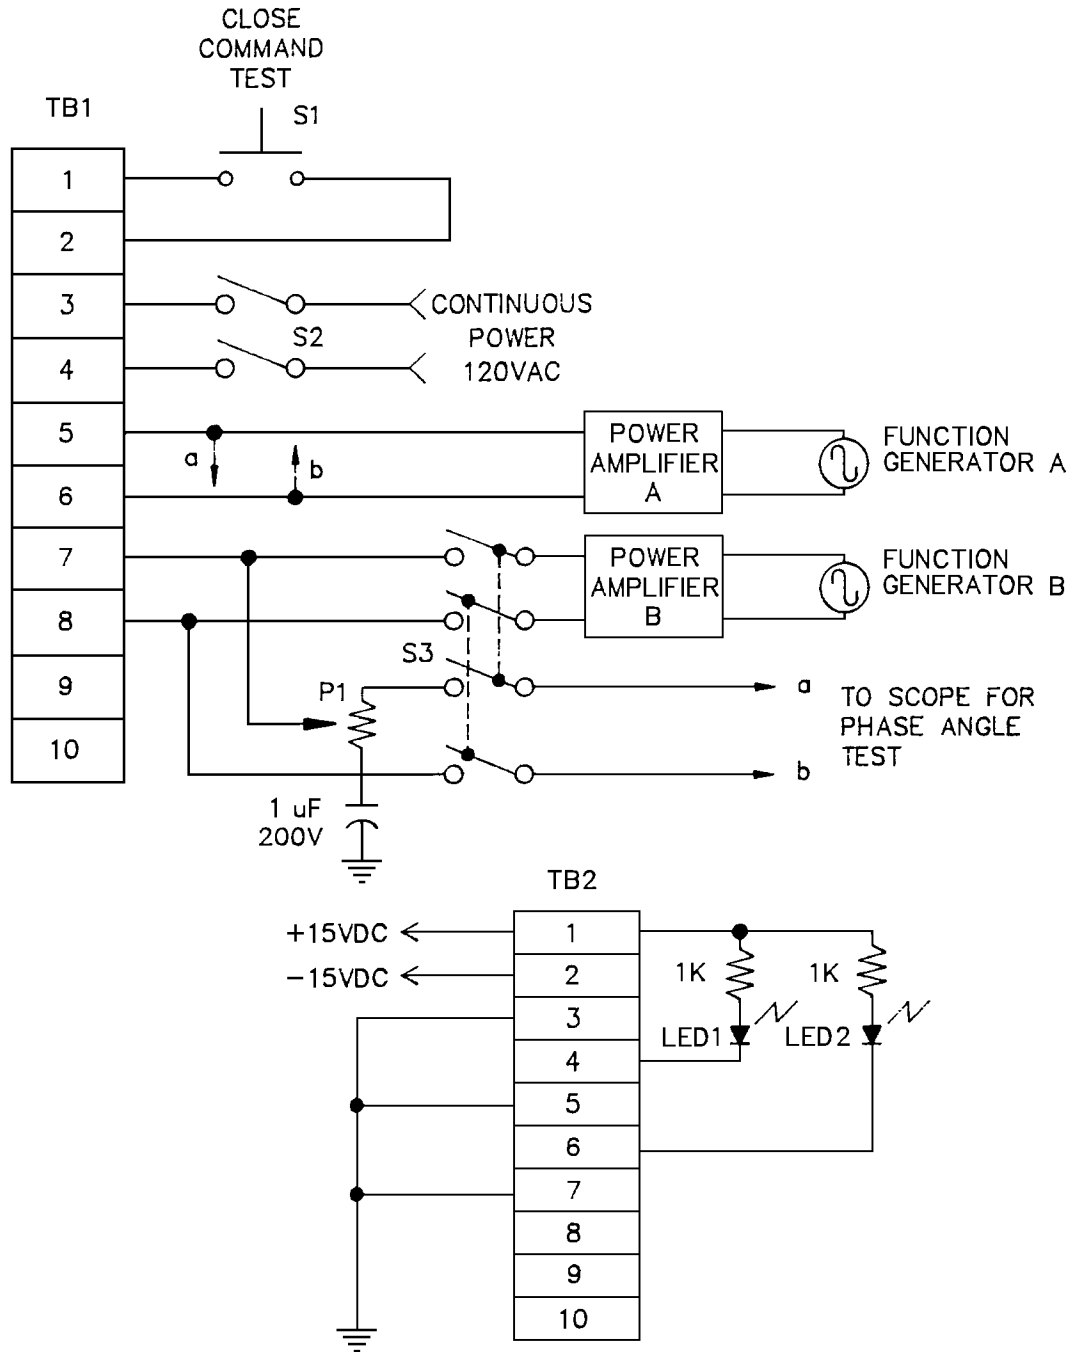

Figure 5-2. Test Configuration for Synchronizing Monitor
Power requirements: 120 VAC and test connection set up as shown in figure 5-2.
- a. Connect synchronizing monitor as shown in figure 5-2. Power supply, switch, and LEDs must be connected prior to starting generator unit.
- (1) Same voltage: Use two voltmeters to check 120 VAC (TB1-5 and TB1-6) of Generator A; and 120 VAC (TB1-7 and TB1-8) of Generator B.
- (2) Same frequency: Use two frequency counters to check both Generators A and B at 60 Hz.
- (3) Same Phase Angle: Use dual oscilloscope channel 1 connected to TB1-7 and channel 2 connected to TB1-5. Switch S3 to the UP position. Check for 0 degrees phase angle between TB1-5 and TB1-7.
- (1) Power LED on Output Board remains on.
- (2) Test LED on Output Board remains on.
- (3) LED 1 and LED 2 (figure 5-2) are on.
- (1) Slowly increase frequency of Generator A until test LED on Output Board turns off, then LED 1 and LED 2 (figure 5-2) turn off with about 0.5 second delay. Verify Frequency Counter of Generator A reads 60.2 ± 0.05 Hz.
- (2) Adjust frequency of Generator A to back to 60 Hz. Verify test LED turns on the Output Board.
- (3) Push switch S1 and then release to illuminate LED 1 and LED 2.
- (5) Slowly decrease frequency of Generator A until test LED on Output Board turns off. Verify LED 1 and LED 2 (figure 5-2) turn off with about 0.5 second delay when frequency of Generator A is 58.2 Hz, or $0.2 \text{ Hz} \pm 0.05$ lower than frequency of Generator B.
- (6) Repeat steps e (2) and (3) to illuminate test LED, LED 1 and LED 2.
- (1) Locate switch S3 to the down position, adjust P1 (figure 5-2) until test LED on the Output Board turns off, then LED 1 and LED 2 turns off after 0.5 second delay. Observe dual oscilloscope and verify the sine wave of channel 1 leads the sine wave of channel 2 by approximately 30 degrees.